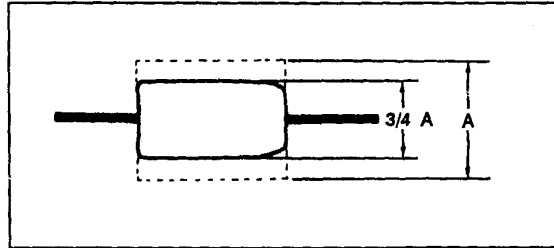

Fig. 4-12.
- 1) Confirm that the amplitude of RF waveform is reduced to approx. 3/4 when the track shift mode is set (See Fig. 4-12).